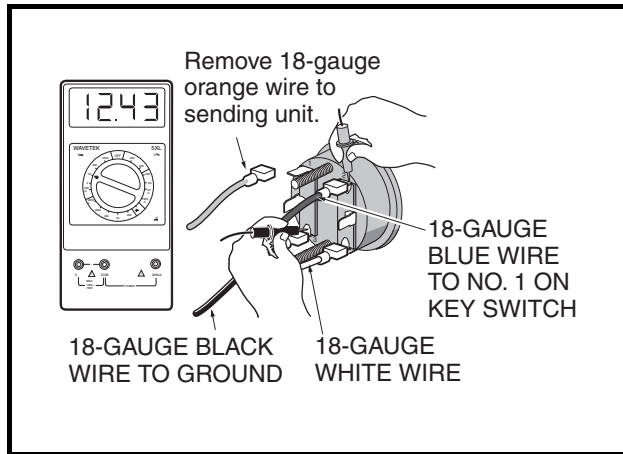

Figure 11-37 Test Fuel Gauge Continuity
6. Set a multimeter to 20 volts DC and place the red (+) probe of the multimeter on the (2) terminal of the fuel gauge/hour meter with the blue wire. Place the black (-) probe on the (3) terminal of the fuel gauge/hour meter with the black wire (**Figure 11-37, Page 11-35**).
8. Turn the key switch ON. The voltage reading should be the same as the battery voltage reading recorded earlier. If not, check the continuity of the blue and black wires (**Figure 11-37, Page 11-35**).